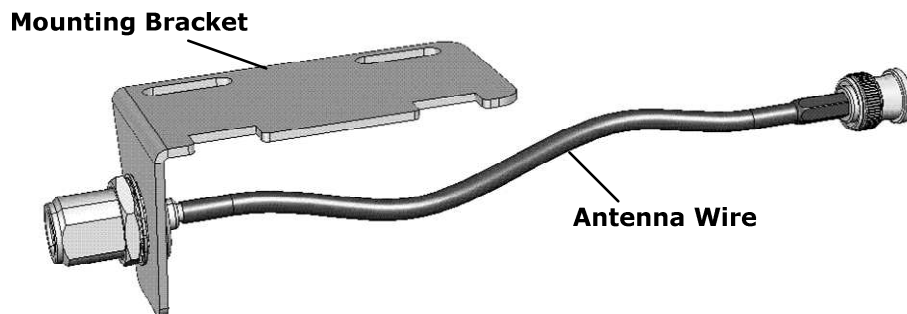

Figure 8: Mounting Bracket Assembly
2. Attach the antenna wire [D] to the mounting bracket [B], as illustrated in Figure 8.